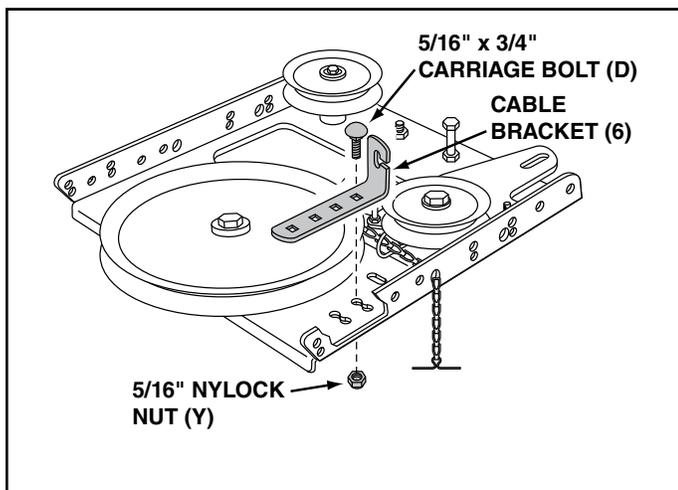

FIGURE 8
STEP 8: (SEE FIGURE 8)
- Attach the pulley (22) (long end of hub facing down) and the large 3/8" spacer (23) to the clutch frame. Use a 3/8" x 3-1/4" hex bolt (A), a 3/8" washer (T), a 3/8" lock washer (O), and a 3/8" hex lock nut (Z).
- Install a tensioning chain (JJ) through the hole shown and then insert a 3/32" hairpin cotter (GG) into the 4th link.